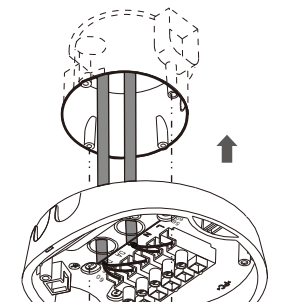

FIG.13
- 3.4.2.3 Select appropriate distance from the bottom base mounting holes, to fix the bottom base onto European standard junction box with two wood screws (See FIG.13)